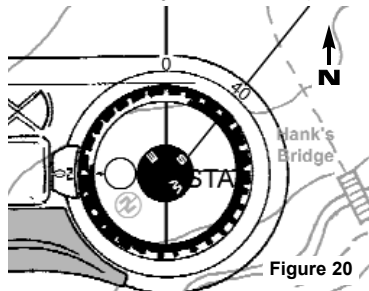

Figure 20
2. Using the 0° to 180° scale, read bearing where the bearing line intersects the protractor. (Fig 20)